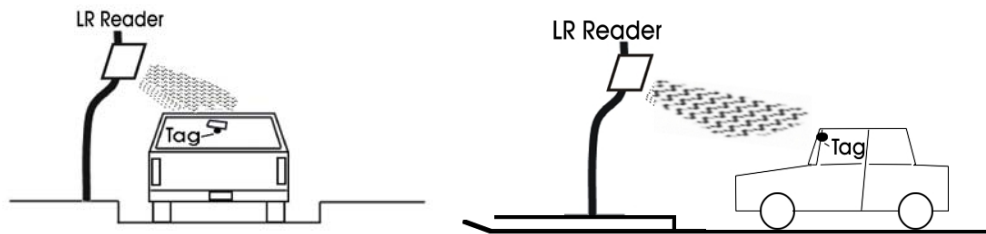
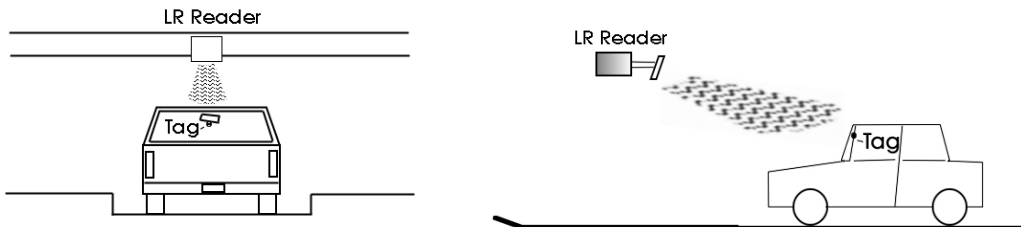

Figure 4. Passenger vehicles -- reader beside lane.
Figure 5. Passenger vehicles -- reader above lane.
1. Mount the reader so that it faces the WS-UHF tag at the "sweet spot" reading location. See Figures 4 and 5 for typical uses.
If the reader is *beside the lane*, mount the reader as close to the edge of the lane as possible without damage to the reader. Choose the left side of the lane when possible, because this side is easier for the driver (in right-lane-driving countries) to judge the vehicle's location relative to the left edge of the lane. Mount the reader on an adjustable bracket at a height of about 7 feet (for small cars, 6 feet may suffice). Attach or hold a UHF card or tag on the same side of the vehicle as the reader. Aim the reader at the tags when they are at the "sweet spot" – about 10 to 15 feet direct measurement from reader to tag as the vehicle approaches the reader. See Figure 4.
If the reader is *centered above the lane*, as inside a parking structure, mount the reader on an adjustable bracket at the lowest height that assures safe clearance between the reader and the highest vehicle. Hook a HT-UHF Hangtag over the inside rear-view mirror's stem, or attach a UHF card to the back of the mirror facing the reader, or adhere a WS-UHF Windshield Tag to the upper center of the windshield, behind the mirror. Aim the reader at the tags when they are at the "sweet spot". See Figure 5.
This application is a variation of Section 9.2. The reader beside the lane should be at about 7 feet height; the reader above the lane must be raised to clear the higher vehicles. Mount the tags and cards in small vehicles (sports cars) higher than in larger vehicles (SUVs). This places the tags and cards for all vehicles at about the same position relative to the reader. See Figure 4 and Figure 5.
Follow the general suggestions for vehicles in Sections 9.2 and 9.3, regarding the location of the reader mounting (beside the vehicle lane or over the center of the lane). Select the UHF card or tag that performs best in the combination of vehicle lanes, vehicle types, reader locations, and credentials characteristics. See Figure 4 and Figure 5.